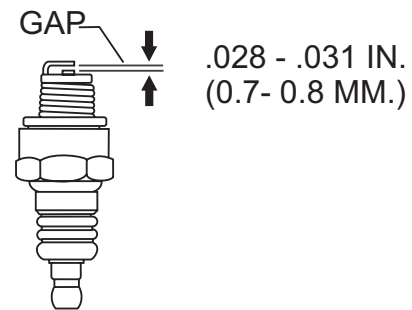

Figure 30. Spark Plug Gap
1. Remove and clean spark plug (Figure 30) with a wire brush if it is to be reused. Discard spark plug if the insulator is cracked or chipped.